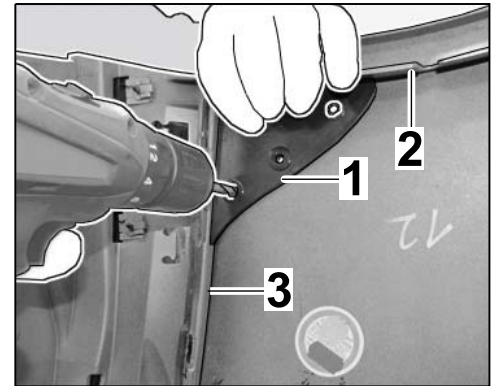

Figure 6
- 2.3.2 Front apron, left side: Fit left supporting plate on the inside of the front apron so that it is flush with the wheel housing liner/C channel flange (⇒ *Figure 6*)